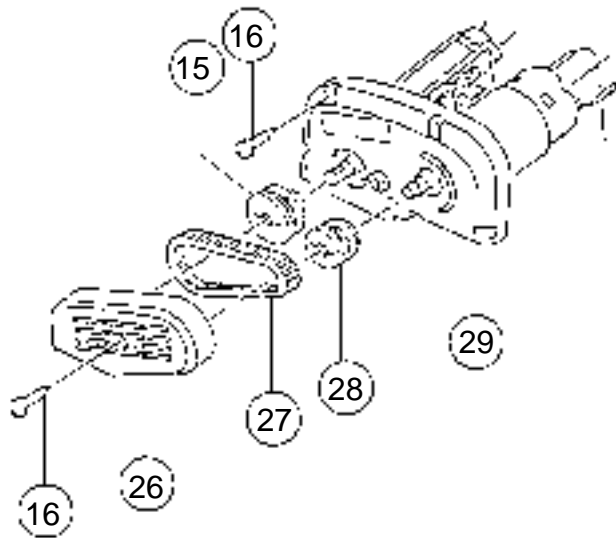

Fig. 5
2-1-2. Removal of Pulley (A) [28] and Pulley (B) [15] (See Fig. 5.)
- (a) Remove the one Tapping Screw D4 x 25 [16] which fixes Belt Cover (B) [26] to the End Bracket [29], then remove Belt Cover (B) [26].
- (b) Pulley (A) [28] (left-hand threaded) and Pulley (B) [15] (right-hand threaded) are screwed onto the motor shaft and the cutter spindle respectively. To remove Pulley (A) [28], fit a wrench to Pulley (A) [28] and put the blade of a flatblade screwdriver into the groove at the tip of the motor shaft, then turn the screwdriver counterclockwise.
- (c) To remove Pulley (B) [15], fix the Cutter Block Ass'y [18] securely in a vise and fit a wrench to Pulley (B) [15], then turn the wrench counterclockwise. It is recommended to wrap the Cutter Block Ass'y with a thick cloth to prevent injury to fingers.